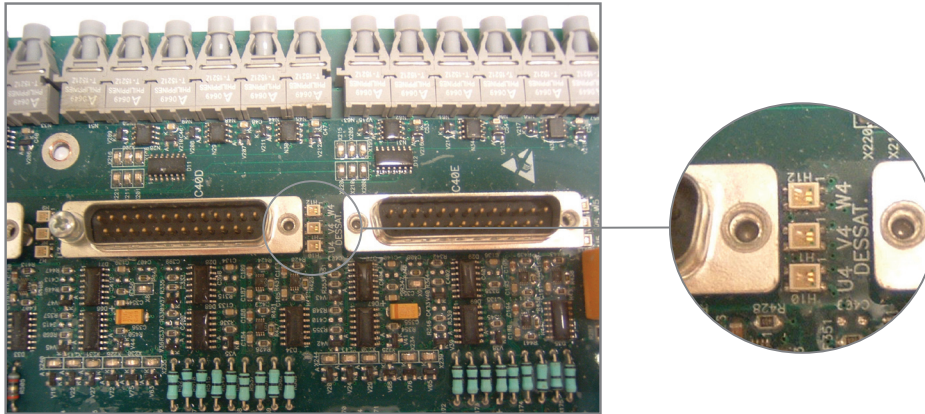

Figure 0.1 - LEDs that indicates the fault
(1) Long motor cables (with more than 100 meters) will have a high leakage capacitance to the ground. The circulation of leakage currents through these capacitances may activate the ground fault protection after the inverter is enabled, and consequently, the occurrence of fault F074.
(2) In case of F030 (Arm U Fault), F034 (Arm V Fault) and F038 (Arm W Fault) faults, there is an indication at the IPS1 board that signalizes which of the power units is presenting the fault. The indication is done through LEDs that remain on when the fault occurs. When a reset is performed, the LED that indicates the fault goes off (refer to the figure 0.1).